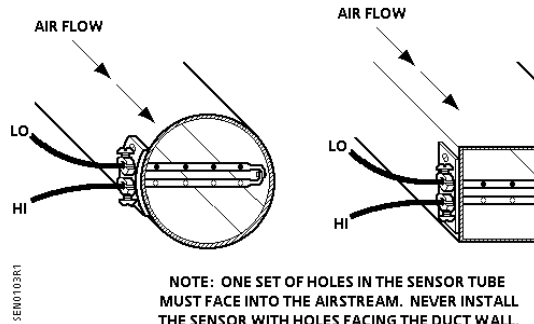

Figure 4. Sensor Location.
5. Line up the holes in the mounting flange, gasket and duct, and drive the two No. 8 screws into the duct (see Figure 4).